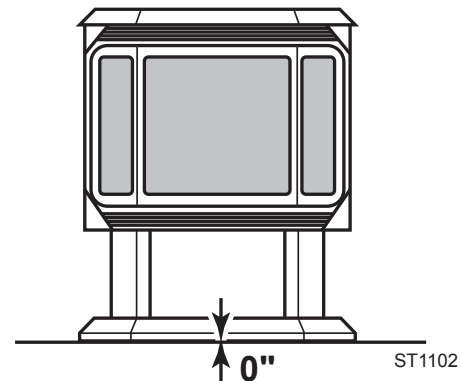

Figure 5 -
- No clearance is necessary to the floor. Stove may sit on the floor. *Figure 5*